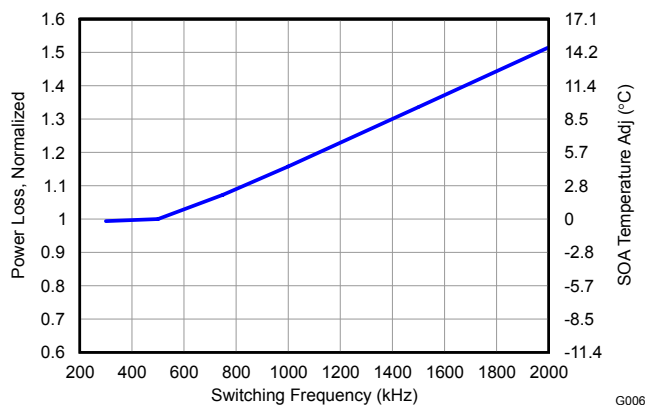

Figure 12. Normalized Power Loss vs Frequency
- Normalized Power Loss for switching frequency ≈ 1.09 (Figure 12)
- SOA adjustment for switching frequency $\approx 2.7^{\circ}C$ (Figure 12)